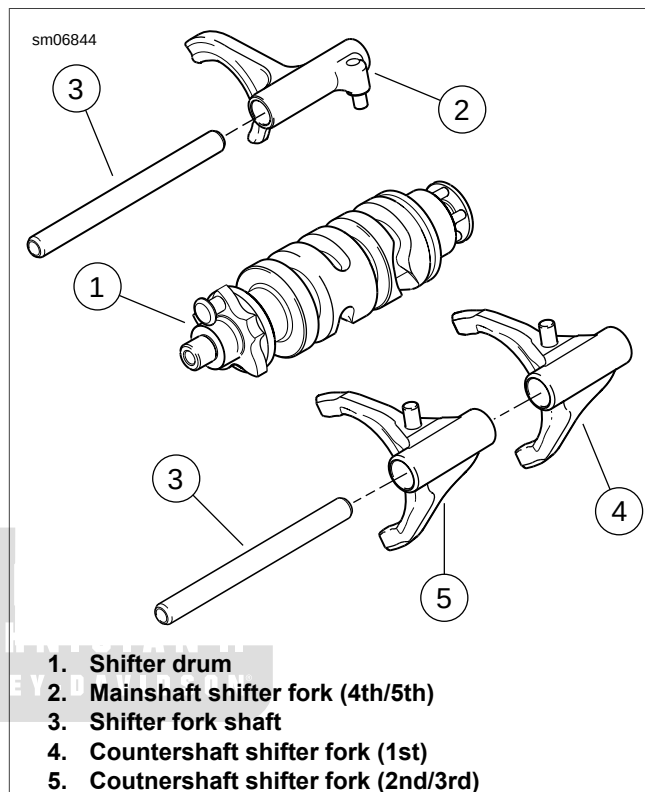

Figure 5-92. Shifter Forks, Drum and Shafts
- See Figure 5-92. Each shifter fork develops a wear pattern with its mating parts. Install each shifter fork in its original location.